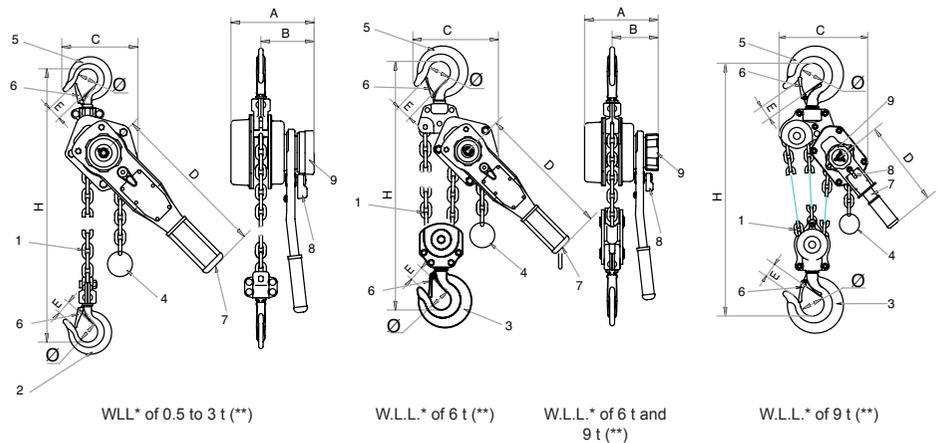
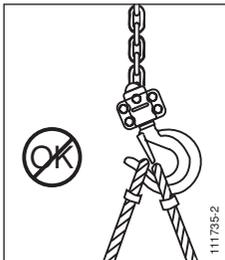

Fig. 1
Fig. 2
The bravo™ hoist is supplied with a standard 1.50 m length of load chain (item 1, fig. 1). The load chain used with the 0.5 t to 3 t models is formed by a single strand with a lifting hook (item 2, fig. 1) at its end. The lifting chain (item. 1 fig. 1) of the 6 t model is made up of two strands and a sheaved lifting hook (item 3, fig. 1). The lifting chain (rep. 1 fig. 1) of the 9 t model, is made up of three strands and a sheaved lifting hook (item. 3, fig. 1).
The free end of the chain is equipped with a low limit stop (item 4, fig. 1).
1. Check that the bravo™ hoist is properly suspended by its suspension hook (item 5, fig. 1) and that the hook safety catch (item 6, fig. 1) is properly closed (see figs. 2 and 3).
1. The anchoring accessory of the load sits fully in the hook and does not prevent the catch from closing correctly (see figs. 2 and 3).
The bravo™ hoist is operated by means of an actuating handle (item 7, fig. 1) which is moved back and forth by the operator to lift or lower a load, pull a load, or apply tensioning.